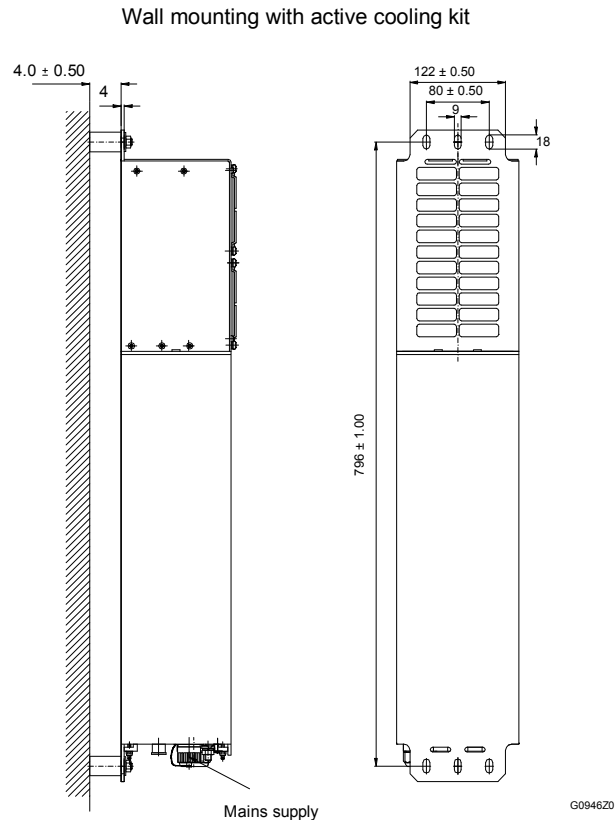

figure 4-1 Wall mounting, (metric dimensions)
- Mark the position of the drilling holes (for measurements refer to figure 4-1 Wall mounting). Drill four holes at the marked positions and insert dowels \*.